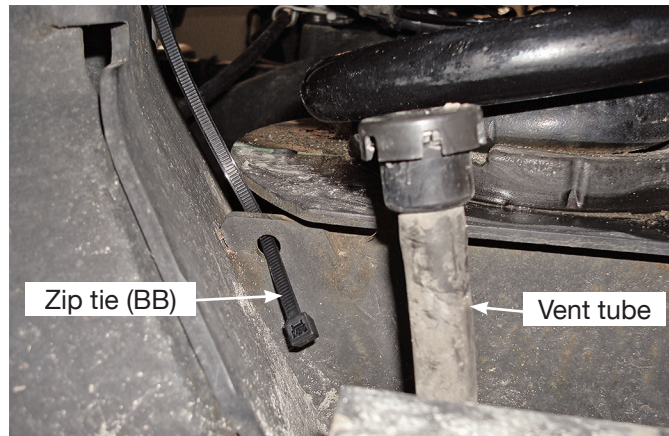

Fig. 3
2. On the left (driver's) side axle, there is a small vent tube (Fig. 3) that needs to be tied on an angle with a zip tie (BB).